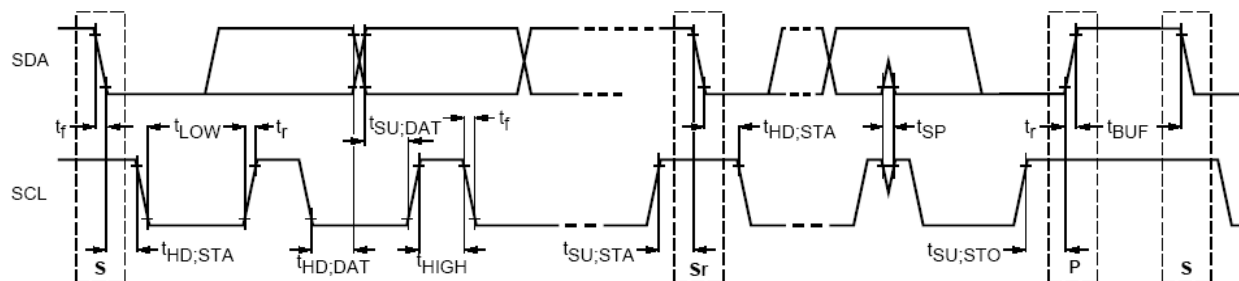

Figure 7. Definition of Timing for Full-Speed Mode Devices on the I2C-Bus®
| t HD,DAT  | Data Hold Time (See Figure 7)                                     | 0                                     | 0.9  | μs   |
| t SU,DAT  | Data Set Up Time (See Figure 7)                                   | 100 (5)                    |      | ns   |